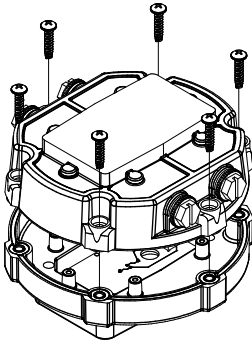

Figure 15
- Remove (6) screws retaining the cover plate to the base and lift the cover plate free of the base (see Figure 15).